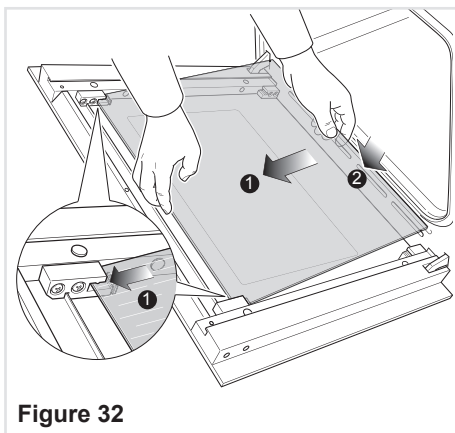
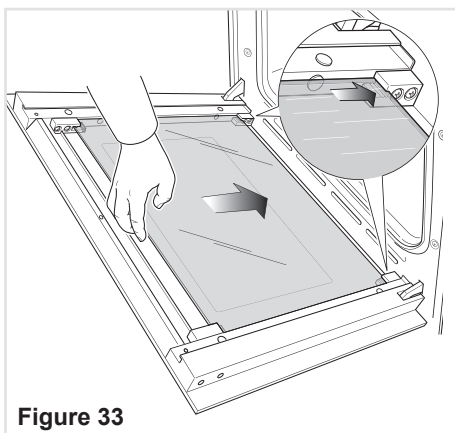

Figure 32
Figure 33
- Gently insert the top edge of the pane into the top clamps (arrow 1 in fig. 32), then lower the pane and insert the bottom edge into the bottom clamps (arrow 2 in fig. 32); and then slide the pane into position (fig. 33).